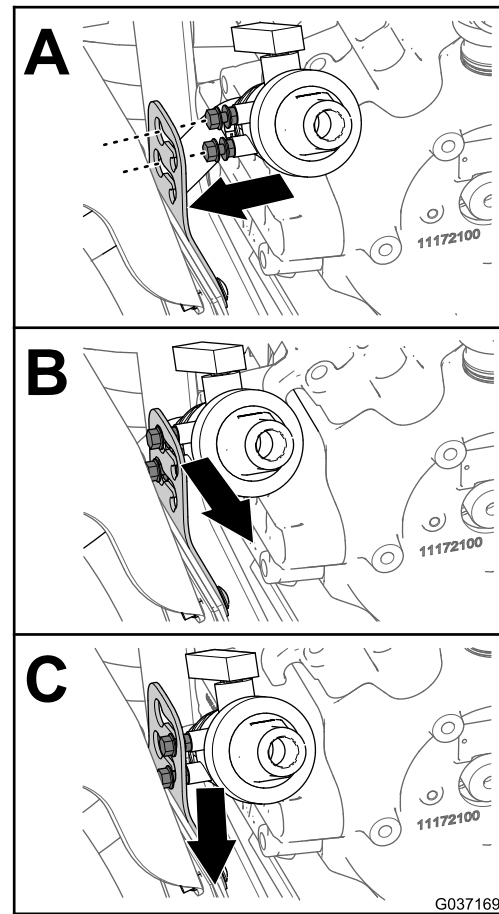

Figure 13
- Align the locknuts of the drain valve with the holes of the keyhole slots in the drain-valve bracket (A of Figure 13).
- Move the drain valve outboard and down to secure the valve to the bracket (B and C of Figure 13).